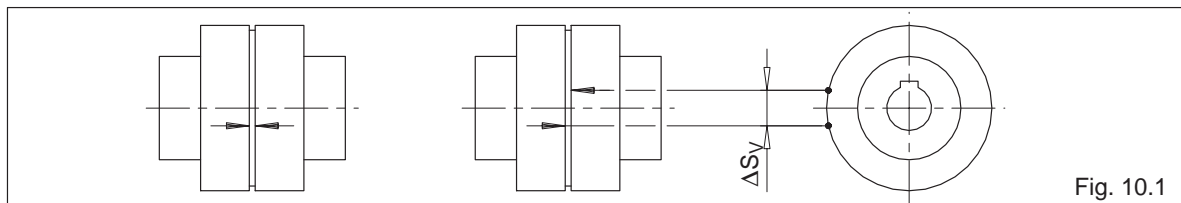

Fig. 10.1
If an increased coupling backlash does not impair the operation of the coupling, the flexible elements (12) can continue to be used up to a specified wear limit before being replaced. To assess wear, the permitted circumferential backlash, converted to the chord dimension ΔS_V on the outer coupling diameter, is shown in table 10.1a. and table 10.1b. To obtain the dimension ΔS_V , one coupling part is rotated without torque as far as the stop and a mark applied to a coupling part (see Fig. 10.1). If the coupling part is rotated in the opposite direction as far as the stop, the marks move apart. The distance between the marks is the chord dimension ΔS_V . If the dimension ΔS_V exceeds the value in table 10.1a or table 10.1b, the flexible elements (12) must be replaced.